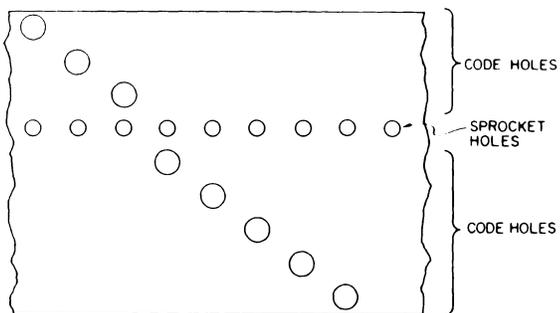

Figure 5-1. Tape - Performance Test
a. Install a test tape, prepared in accordance with figure 5-1, using the procedures given in Section III.